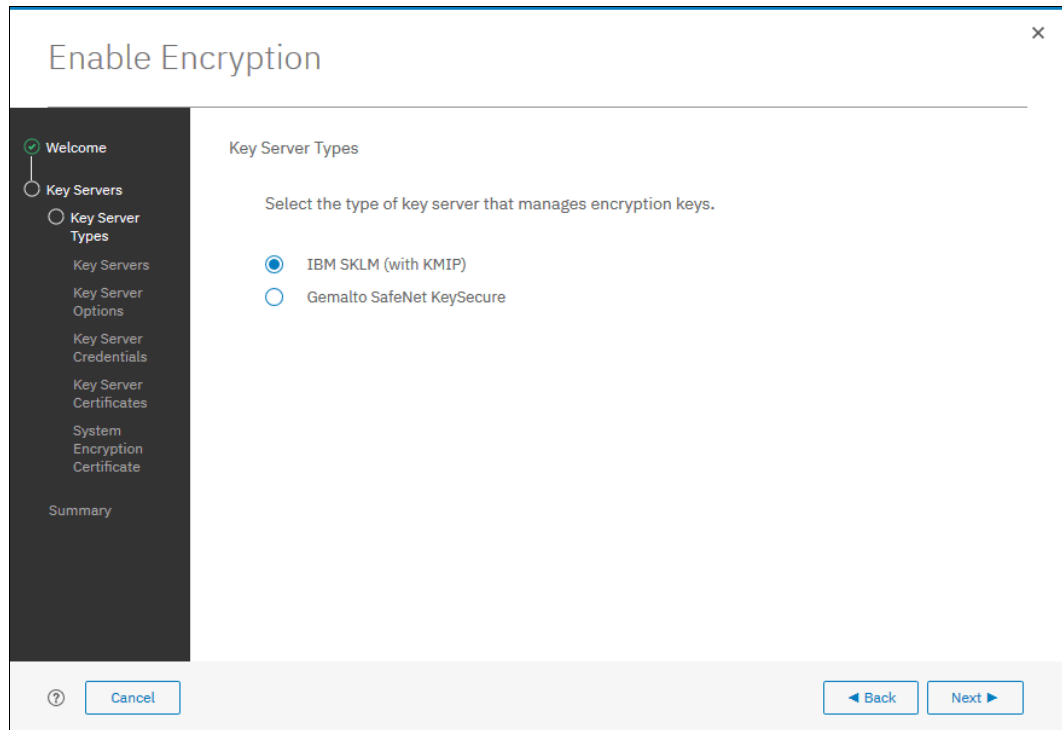

Figure 13-31 Selecting SKLM as key server type
3. Select IBM SKLM (with KMIP) as the key server type, as shown in Figure 13-31.